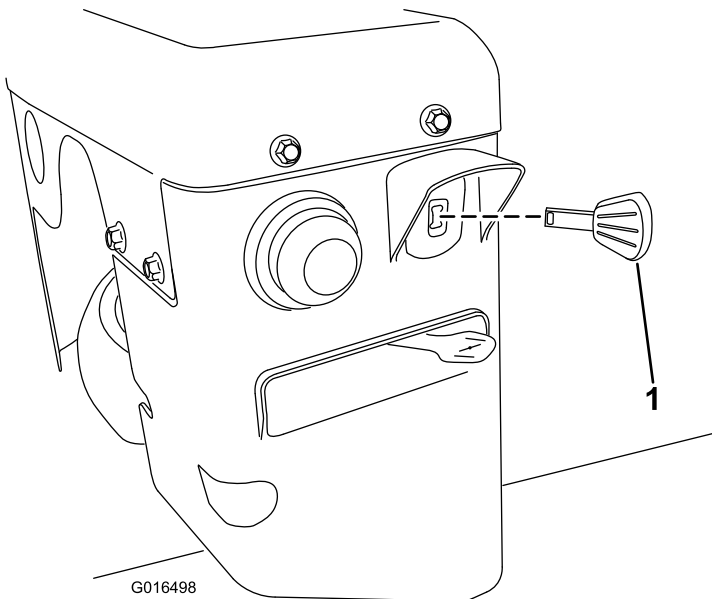

Figure 29
3. Insert the ignition key all the way in (Figure 29).